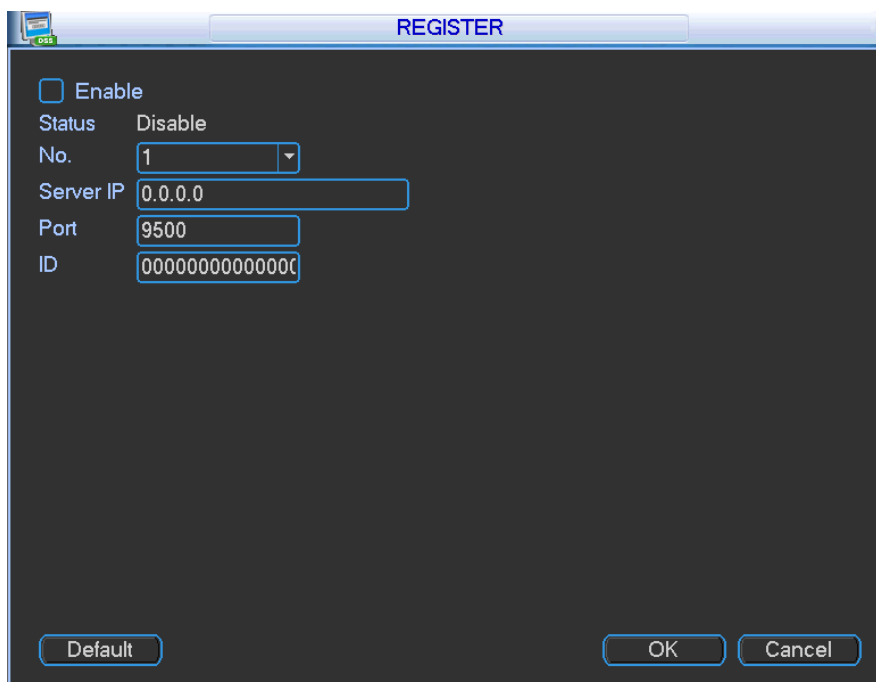

Figure 4-32
1) The setup interface is shown as in Figure 4-32.
3) Now you can add device. Please do not input default port number such as the TCP port in the mapping port number. The device ID here shall be the same with the ID you input in Figure 4-32. Click Add button to complete the setup.